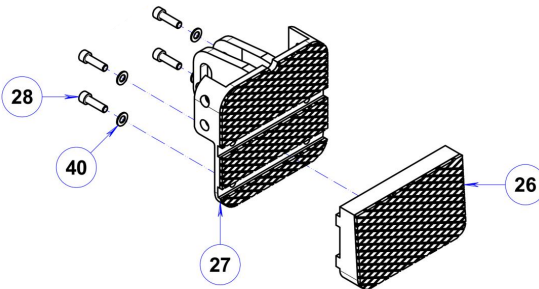

Figure 4a
- Attach the extra clamp plate (26) onto the middle clamp (27) using allen bolts M10x35 (28) and washers Ø10xØ20x1.5 (40) (Figure 4a).